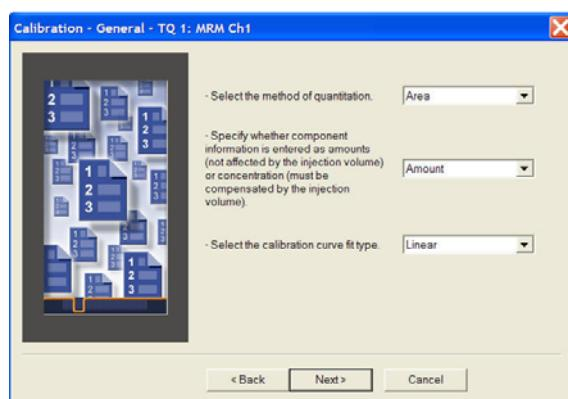

Figure 78 - Calibration window
12. Click the drop-down lists, and select the following settings (Figure 78):